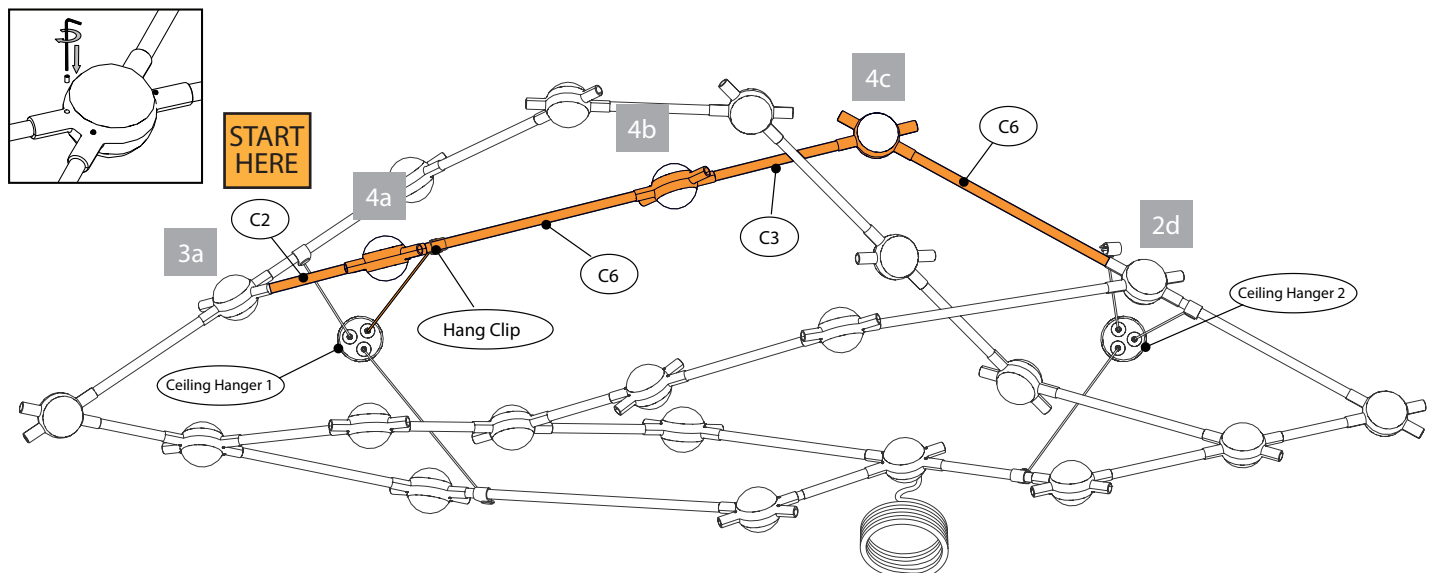

Fig. 8b - Bottom View
- Start by connecting the C2 Arm and 45° Hub (4a) to the 45° Hub (3a) from Section 3. Then secure a C6 Arm to the remaining Hang Clip from Ceiling Hanger 1 (note the Hang Clip orientation in Fig. 8b), approx. ½" from the end, and connect to the 45° Hub (4a).